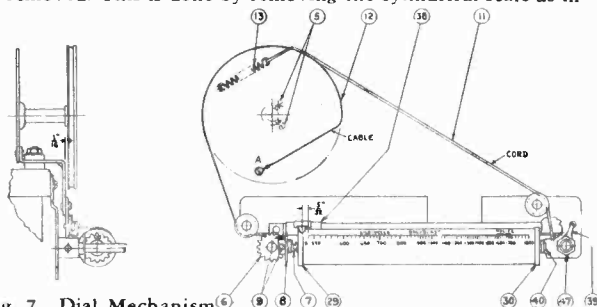

Fig. 7 Dial Mechanism
With set screws (5) loosened and tuning condenser plates fully engaged, place the drum in the position shown in Fig. 7. The drum should be located on the tuning condenser shaft so
as to be in line with the drive cord pulleys ( $\frac{1}{8}$  in. from the dial mechanism mounting bracket), and so that, with condenser plates fully engaged, guide (38) occupies the position shown in Fig. 7.
The position of the dial scale pointer with respect to the tuning condenser drum is held fixed by a special metal braid cable (12) connecting the drum with guide (38). Tension is maintained on the cable through the drum spring (13) and drive cord (11). To replace either the drive cable or the drive cord, remove the dial scale for convenient access to guide (38). Unhook spring (13) from its drum tab to release tension. Unhook the cable or cord from guide (38) and unwind from the pulleys and drum. To replace the cable or cord, rethread to agree with Fig. 7, and rehook drum spring (13) as shown.